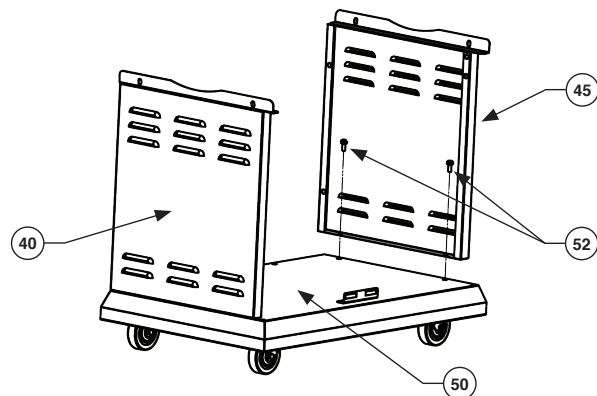

FIG 2
2. Secure Right Plate (45) on the Platform (50) with  $\frac{1}{4}$ -20\*  $\frac{1}{2}$  Bolt (52). As shown in FIG 2.